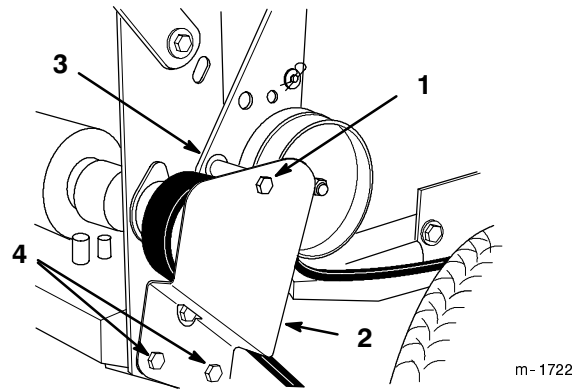

Figure 38
2. Remove the top bolt securing idler support and idler bracket to the rear frame (Fig. 38).
3. Loosen the bottom 2 bolts enough to allow the belt to pass between the drive pulley and the idler support (Fig. 38).